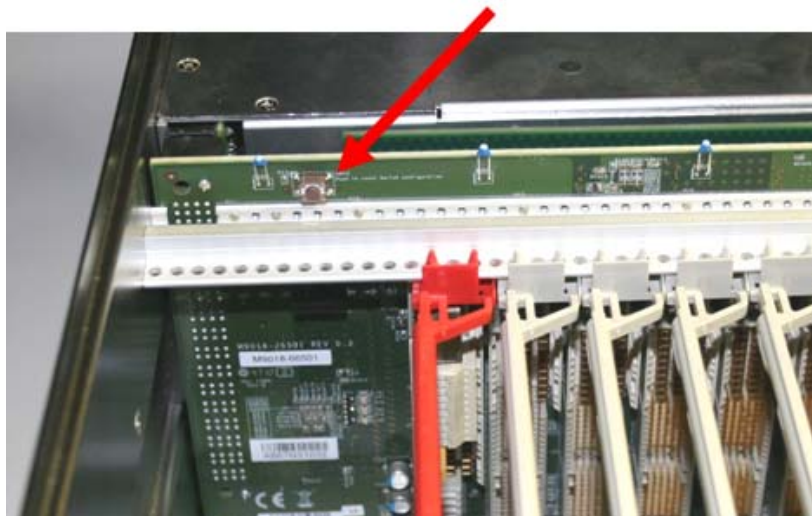

Figure 51 Load Base Configuration Pushbutton
- 3 Identify the Load Base Configuration Pushbutton at the top of the backplane behind the three-wide expansion slot to the left of slot 1—see Figure 51.